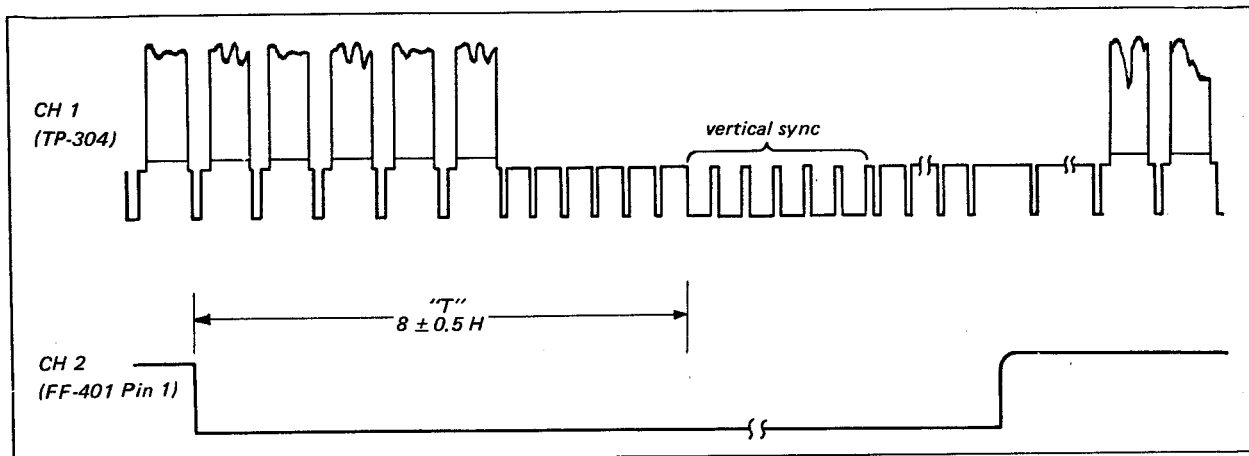

Fig. 6-7. 30 PG coil position
See Fig. 6-7
4. Pull out the 5X magnifier and adjust the POSITION control to observe the second vertical blanking interval as shown in Fig. 6-7.
5. Check that the interval "T" shown in Fig. 6-7 is 8 ± 0.5 H (horizontal lines).
reposition the coil. If "T" in Fig. 6-7 is more than 8 ± 0.5 H, move the coil slightly to the left (in the direction of scanner rotation). If "T" is less than 8 ± 0.5 H, move the coil to the right. Be very careful when adjusting coil position. Make sure that the gap between the coil poles and the rotating pole piece remains the same. Also, make sure that the coil poles and the rotating pole pieces line up when viewed from above.